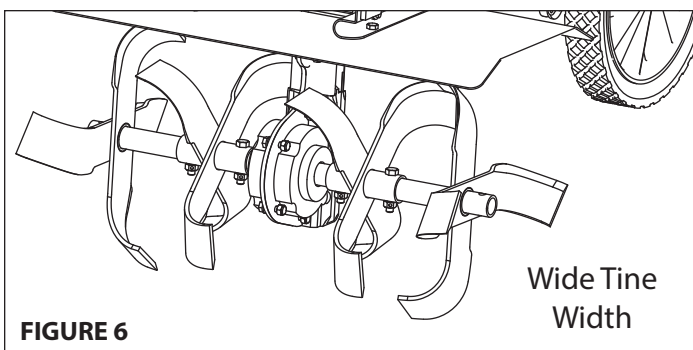

FIGURE 6
- For wide width, move the left tine to the right side and right tine to the left side. Assemble with the long side of tine pipe towards machine, making sure arrow on the tines are pointing in the direction of forward rotation. **SEE FIGURE 6**